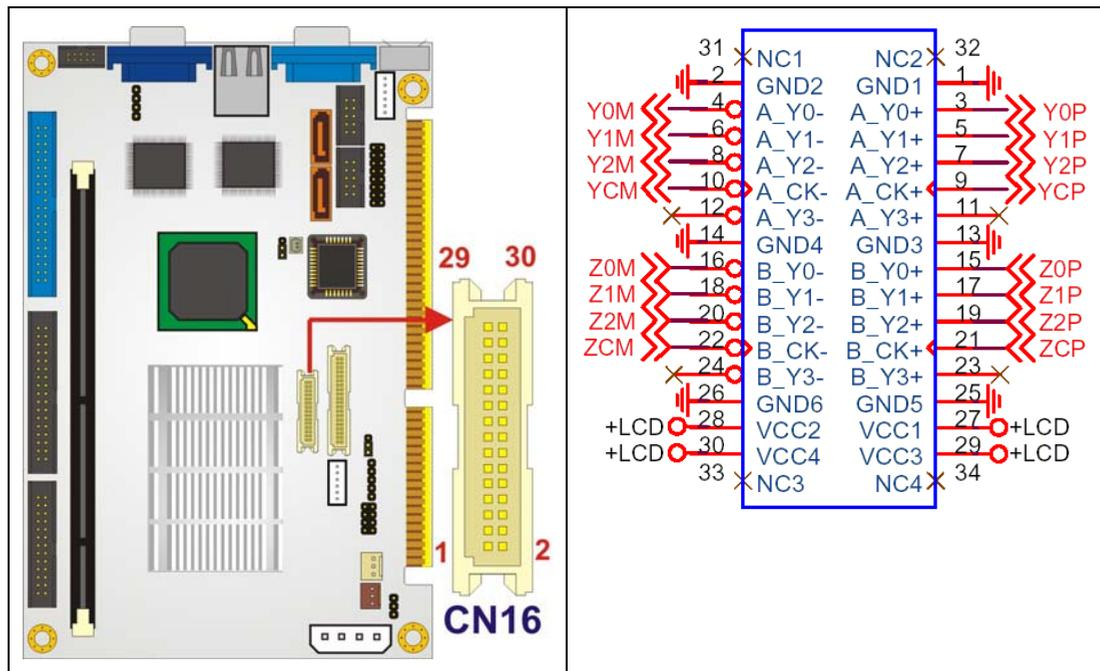

Figure 4-17: LVDS LCD Connector Pinout Locations
- CN Location:** See Figure 4-17